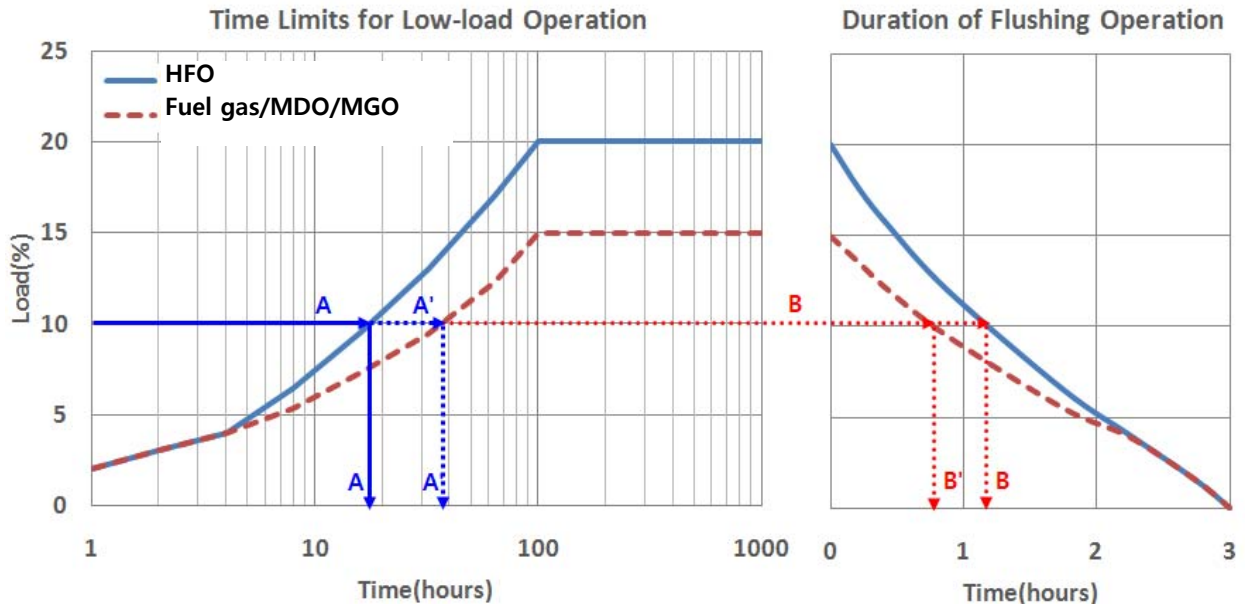

Figure 4-1-4 Time restriction for low load operation
Below 15% load operation : load up over 70% load at every limited time at corresponding load in Figure 4-1-4.
Below 20% load operation : load up over 70% load at every limited time at corresponding load in Figure 4-1-4.
- **Duration of Flushing Operation (See Figure 4-1-4)**